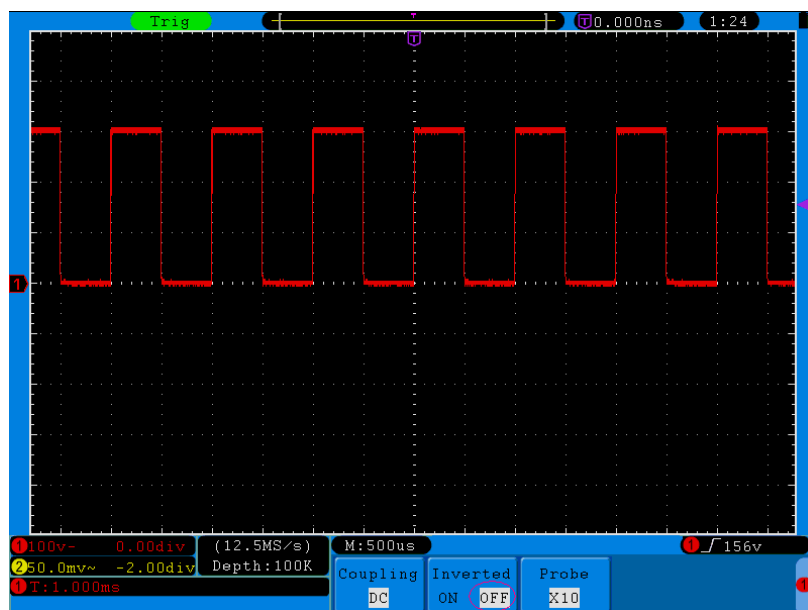

Figure 4-5 Original Waveform
- (3) Press the **H2** menu selection button again and select **OFF** for **Inverted** item. The waveform goes back to its original one as it is shown in *Figure 4-5*.